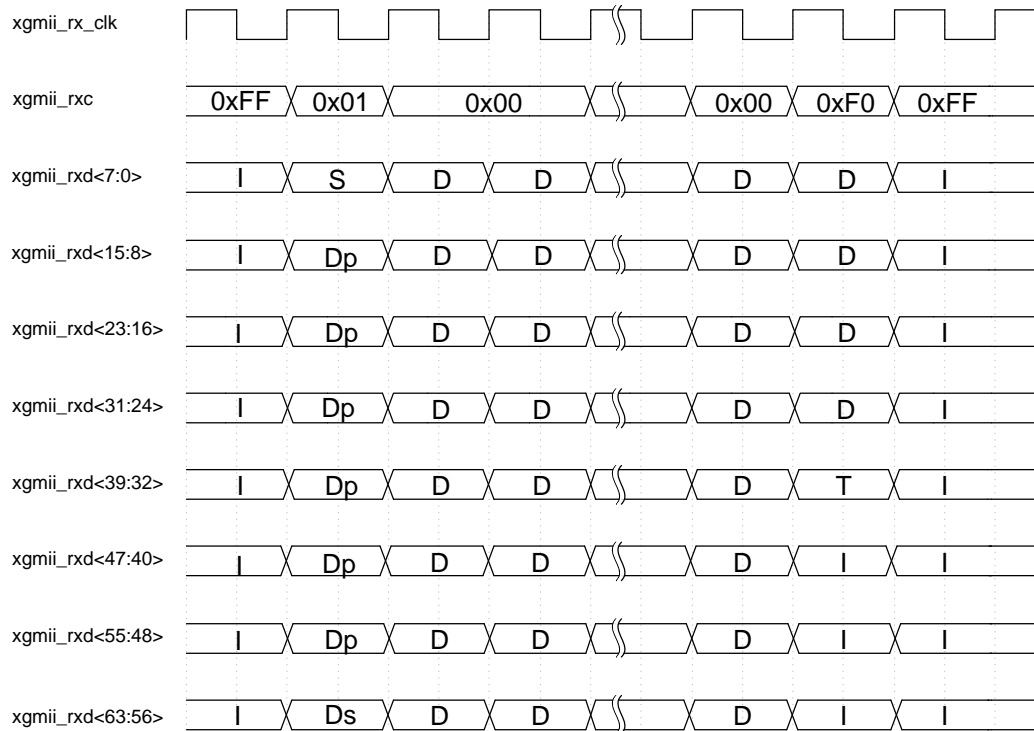

Figure 2-15 Example of User Receiving Normal Data (/S/ on Lane0)
The timing of receiving normal data is similar to that of transmitting normal data, starting with the Start Character (S), /S/ on Lane0 or Lane4, and ending with /T/, where /T/ can be on any Lane. For a detailed description, please refer to "*IEEE 802.3-2012 specification (section 46.3.2)*". The timing diagram example when receiving normal data is shown in Figure 2-15.